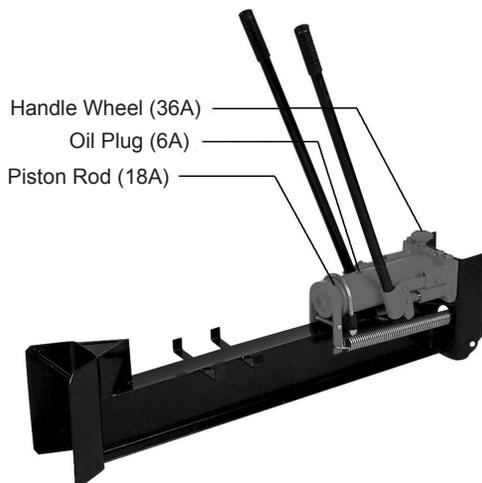

Figure 3
2. Remove the Oil Plug (6A) and top off oil. See Figure 3, below.